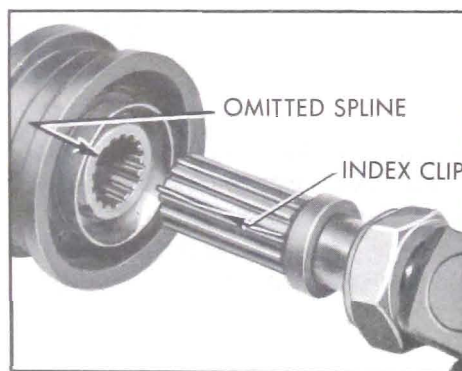
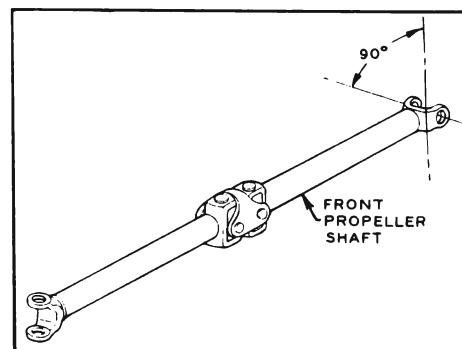

Figure 6-75—Assembling Slip Joint
Figure 6-76—Propeller Shaft Phasing
2. Align the index spring with the missing internal spline in the rear end of the front propeller shaft, and slide the slip joint together. See Figure 6-75. See Figure 6-76 for proper phasing of the propeller shaft.